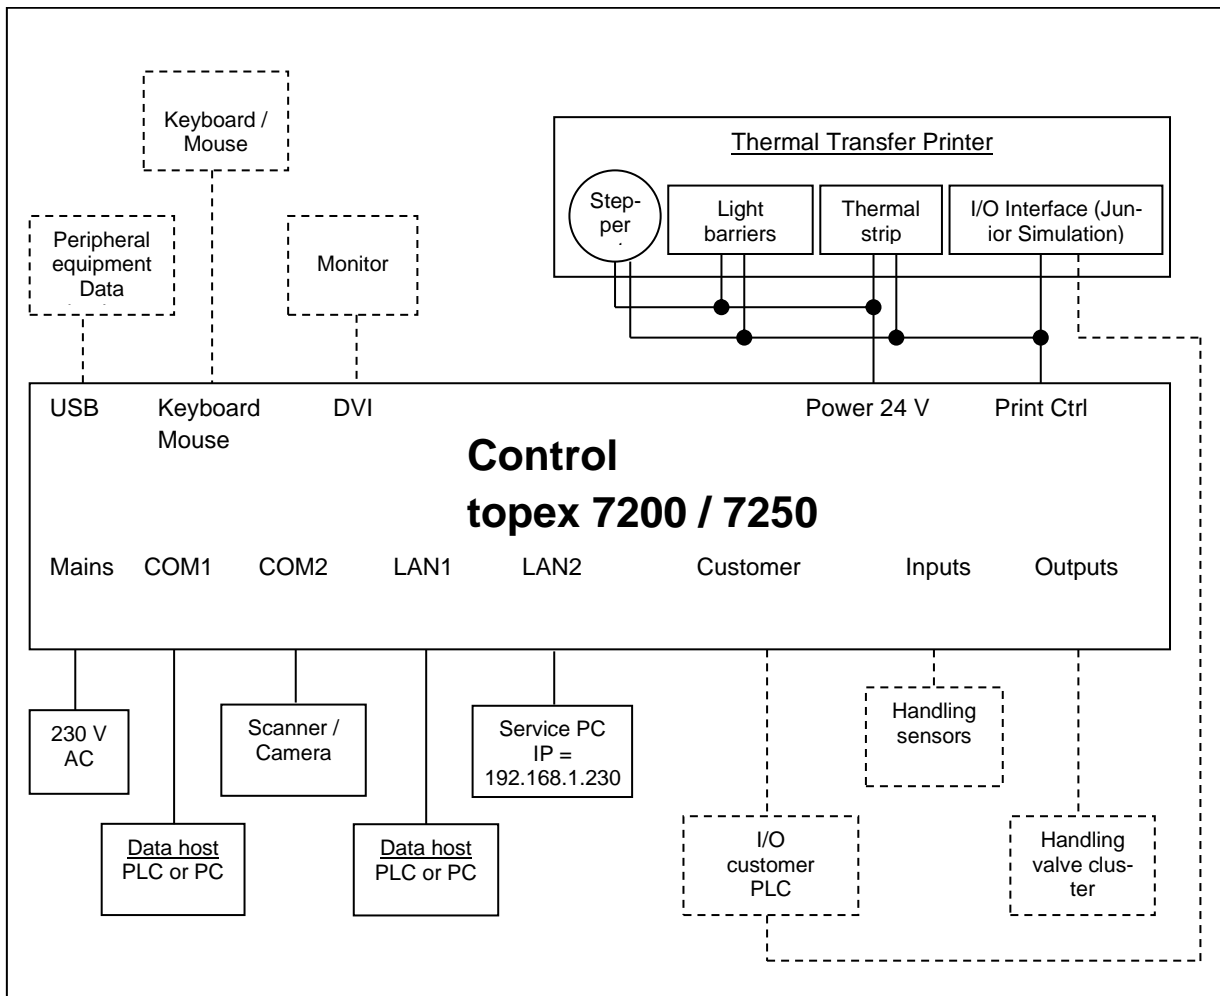

Figure 13 Block diagram of the topex 7200 /7250 control
- Mount the connection cables, see block diagram Figure 13.